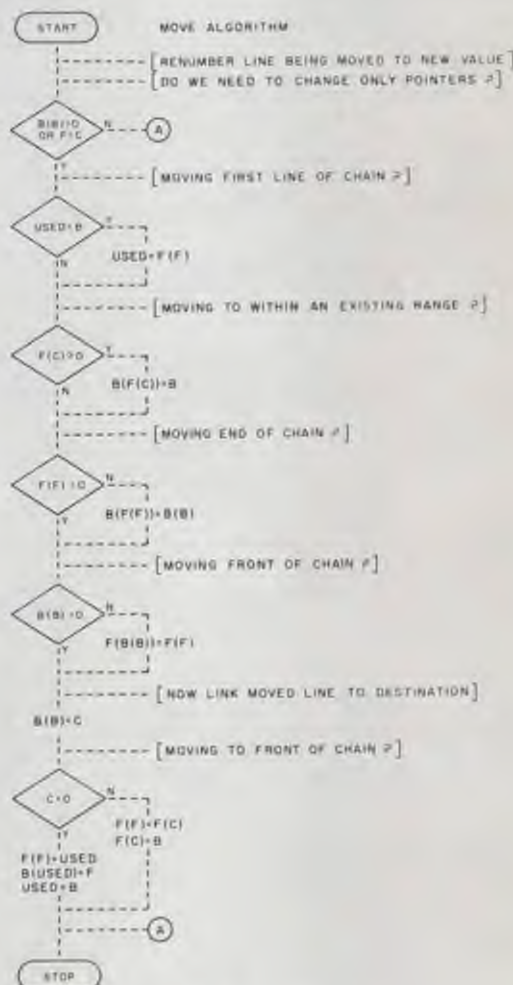

Fig. 11. Move algorithm.
**MOVE.** The MOVE command algorithm is shown in Fig. 11, with supporting examples in